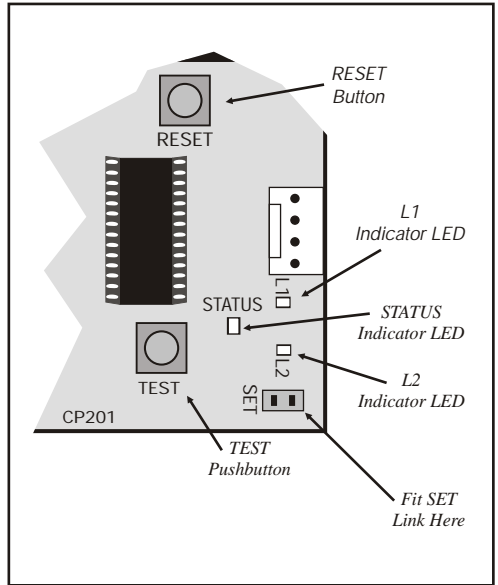

Figure 23 Controller SET Link & Programming LED's
5. Fit the SET link jumper to the SET pins shown in Figure 23.
7. Press and hold the TEST pushbutton (Figure 23) down, for one flash of L1, and then release. L2 will go off, and L1 will now be flashing once per second.
18. Fit the SET link jumper to the SET pins as shown in Figure 23.